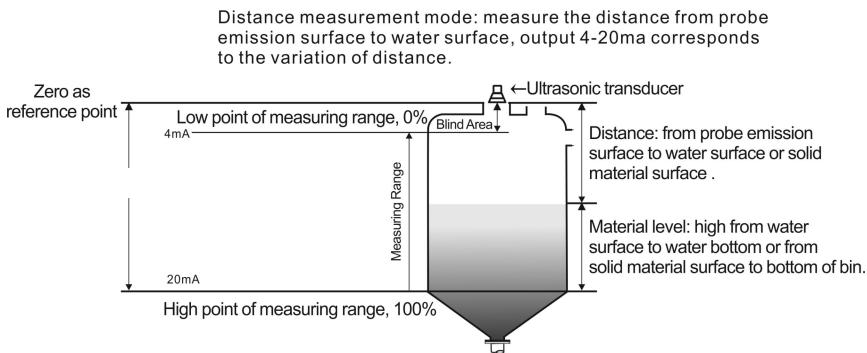

Fig. 1.1 Diagram of distance measurement
- ① Under distance measuring mode, setting of reference zero point is meaningless and the positions of maximum of measuring range and minimum of measuring range are as shown in Fig. 1.1.